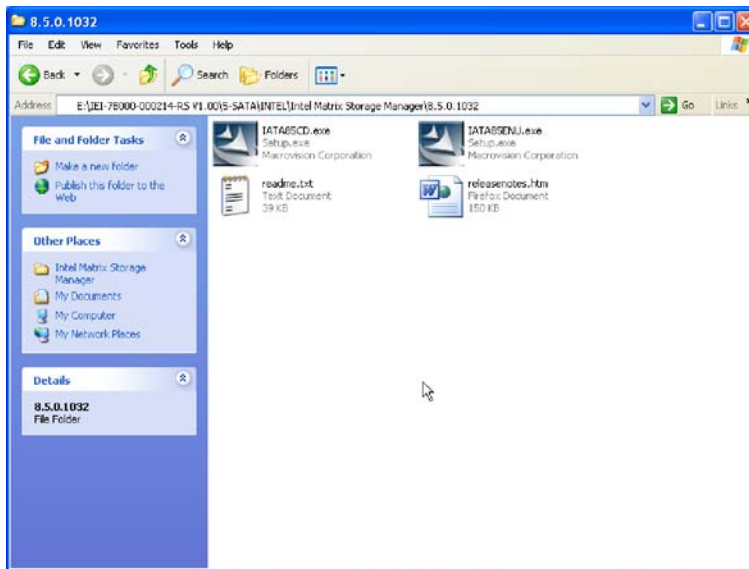

Figure 6-27: SATA RAID Setup Program Icon
Step 5: Double-click the IATA85CD.exe program icon in **Figure 6-27**.